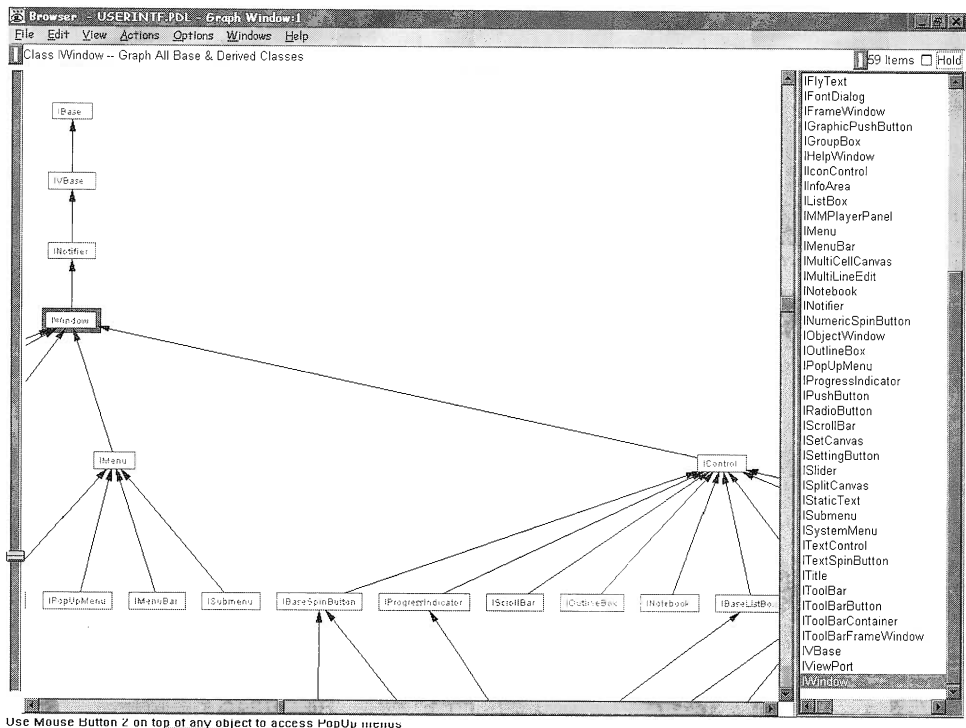

Figure 232: Browser view of IWindow
- ❑ Press the right mouse button on top of IWindow and select **Graph All Base classes** from the pop-up menu. This shows the inheritance of IWindow, seen in Figure 232.